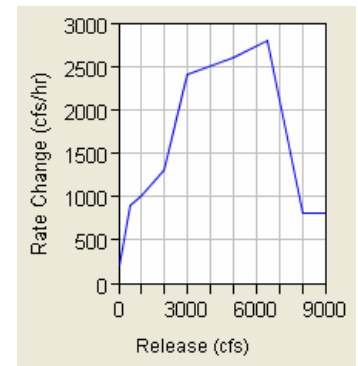

Figure 11.74 Linear
- **Linear Interpolation** (Figure 11.74) will cause the program to interpret consecutive rows in the table as a linear curve, where intermediate values are linearly interpolated.